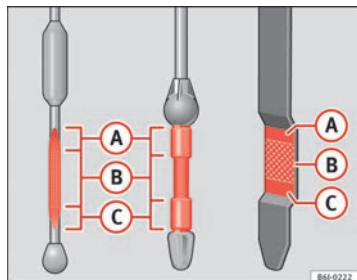

Fig. 133 Engine oil dipstick
- Then pull it out once more and check the oil level ⇒ Fig. 133. Top up with engine oil if necessary.